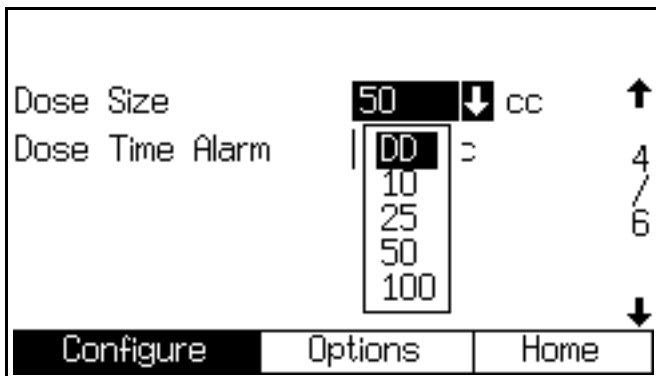

FIG. 94. Configure Screen 4, dynamic dosing selected
2. Navigate to System Configure Screen 4. Select "DD" option from the "Dose Size" drop down menu. FIG. 94.